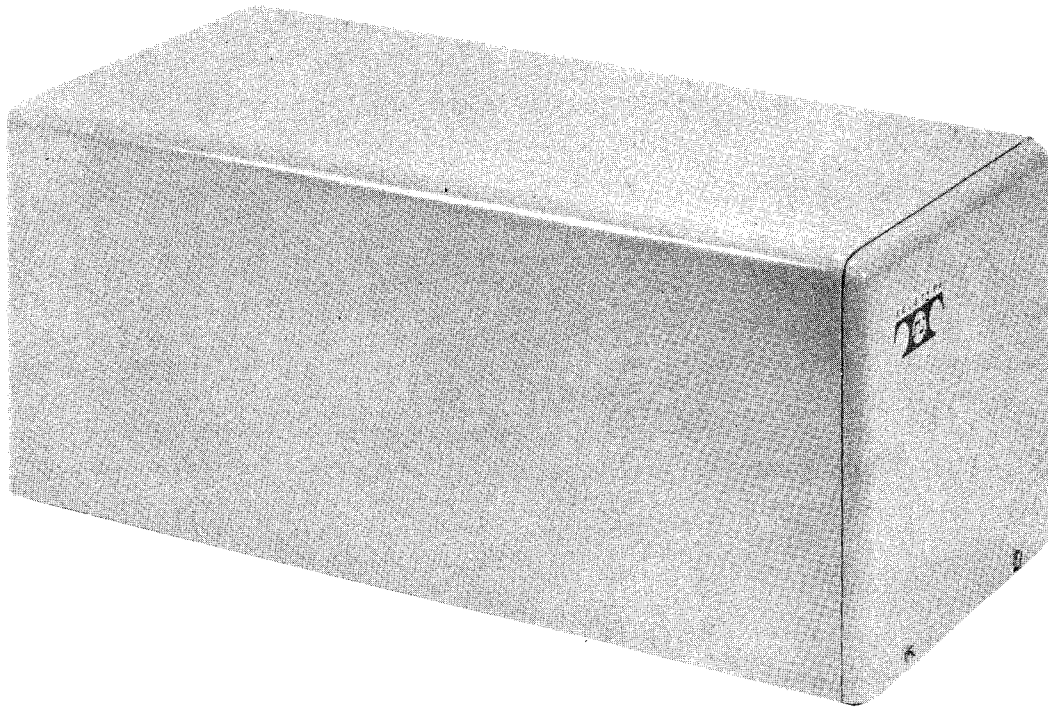

Figure 1 - Answer-Back Unit (With Cover)
1.03 It may be mounted, with or without a cover, on any flat surface or on a cabinet, rack, or shelf (Figures 1 and 2). Although it is ordinarily used in conjunction with other teletypewriter equipment, it is mechanically independent of any other equipment. Only electrical connections for power and control cir-